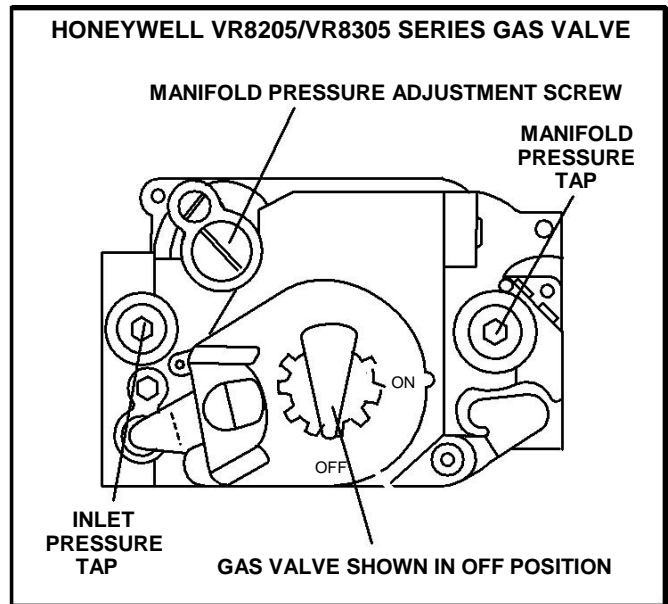

FIGURE 8
GAS VALVE OPERATION FOR HONEYWELL VR8205/VR8305 SERIES GAS VALVE (FIG 8)
- 2 - After line pressure has been checked and adjusted, check regulator pressure. Adjust manifold pressure to values specified on the unit rating plate. See figures 8, 9, and 10 for gas pressure adjustment screw location. A natural gas to LP/propane gas changeover kit is required to convert unit in the field. Refer to installation instructions provided with changeover kit for conversion procedure.